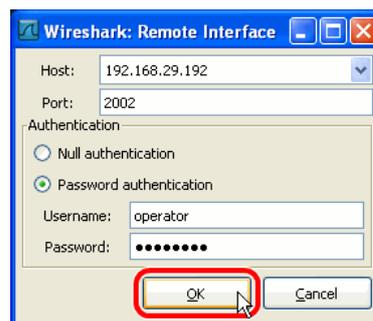

Figure 57: Wireshark Remote Interface Dialog.
4. Enter the correct settings for **Host** and **Port** (default 2002) and, if authentication is enabled, enter **Username** and **Password** in the corresponding fields as shown in Figure 57.